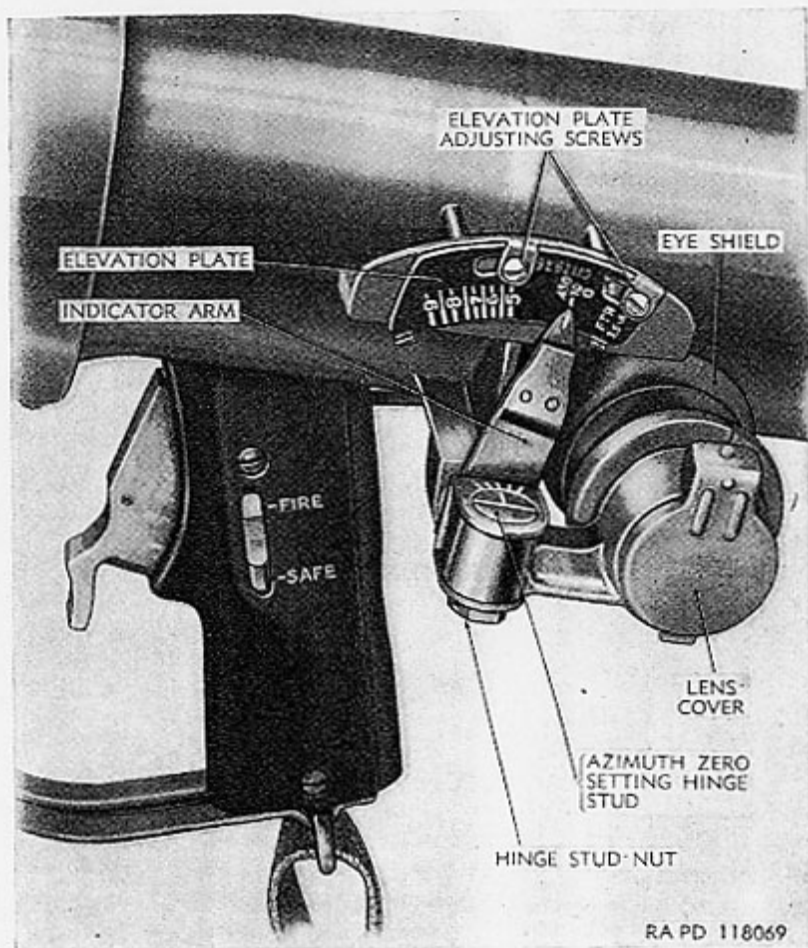

Figure 34. Reflecting Sight Assembly D7141999 (ladder type reticle pattern)—in folded position.
of the sight is provided by a hinge stud which fastens the lens frame into a yoke of the indicator arm. A detent, built into the hinge stud, secures the sight in a fixed firing (sighting) position (figs. 34, 35, and 36) or a fixed carrying position (par. 20c). The indicator arm, pointer, yoke, the hinge stud, the lens cover, the springs, the detent balls, and the elevation plate are steel parts.
- (1) Keep the exposed surfaces of the lenses and other parts clean and dry. Erosion and etching of the surfaces of the glass, which interferes with vision, can be prevented or greatly retarded by keeping the glass clean and dry. *Keep the lens cover closed at all times when the sight is not in use.*
- (2) Under no circumstances will polishing liquids, pastes, or abrasives be used for polishing lenses.
- (3) For wiping optical parts, use only lens tissue paper, specially intended for cleaning optical glass. Use of cleaning cloth is not permitted. To remove dust, brush the glass lightly with a clean artist's camel's hair brush, and rap the brush against a hard body in order to knock out the small particles of dust that cling to the hairs. Repeat this operation until all dust is removed.
- (4) Exercise particular care to keep optical parts free from oil and grease. Do not wipe the lenses with the fingers. To remove oil and grease from optical surfaces, apply liquid lens cleaning soap with a tuft of lens cleaning tissue paper. If lens cleaning soap is not available, breathe heavily on the glass (provided the temperature of the air is above 32° F.) and wipe off with clean lens tissue paper. Repeat this operation until clean.
a. If the vertical (elevation) adjustment of the line of sight is necessary as determined by boresighting procedure (par. 57), loosen the screws at each end of the elevation plate (figs. 34 and 35). Shift the elevation plate forward to lower the line of sight or rearward to raise the line of sight. (Shifting the elevation plate, elevates or depresses the line of sight to the detent action of the indicator arm pointer on the elevation plate.) Tighten the two elevation plate screws after the sight is positioned properly in elevation as determined by the boresighting procedure (par. 57).
b. If lateral (azimuth) adjustment of the line of sight is necessary as determined by the boresighting procedure (par. 57), loosen the hinge stud nut (figs. 34 and 35). Turn the stud by means of the screwdriver slot. This adjusts the position of the detent in the hinge stud and so adjusts the firing (sighting) position of the line of sight
in azimuth (deflection). The graduated markings (fig. 34 and 35) are for reference only. Tighten the hinge stud nut when the sight is properly positioned in azimuth as determined by the boresighting procedure (par. 57).
a. If the lens cover does not function properly, remove the lens cover screws, lens cover, and lens cover ball spring and ball. Replace the spring and reassemble the lens cover (figs. 34 and 35).
- (1) Place the sight in the yoke of the indicator arm so as to align the holes.
- (2) Assemble the spring, seat, and ball in the hinge stud. Insert the hinge stud with the flat towards the launcher and install the lock washer and nut on the hinge stud. Tighten the nut.
- (3) Boresighting will be necessary after this repair.